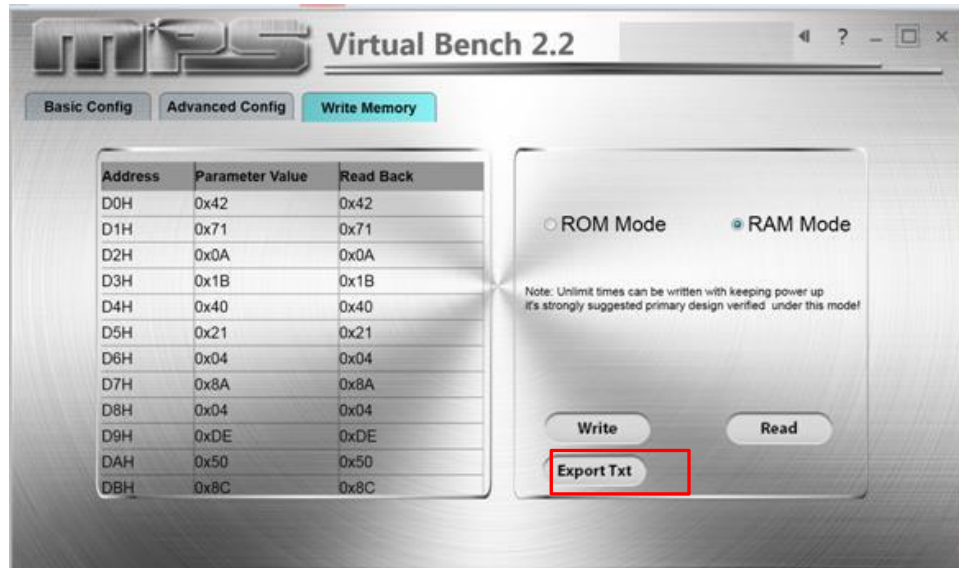

Figure 14: Export Version
- Click the "Export" button to export the data of your setting (see Figure 14).